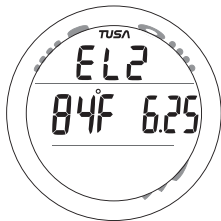

Fig. 9 - WATCH ALT
**WATCH ALT DISPLAY**, information includes (Fig. 9):